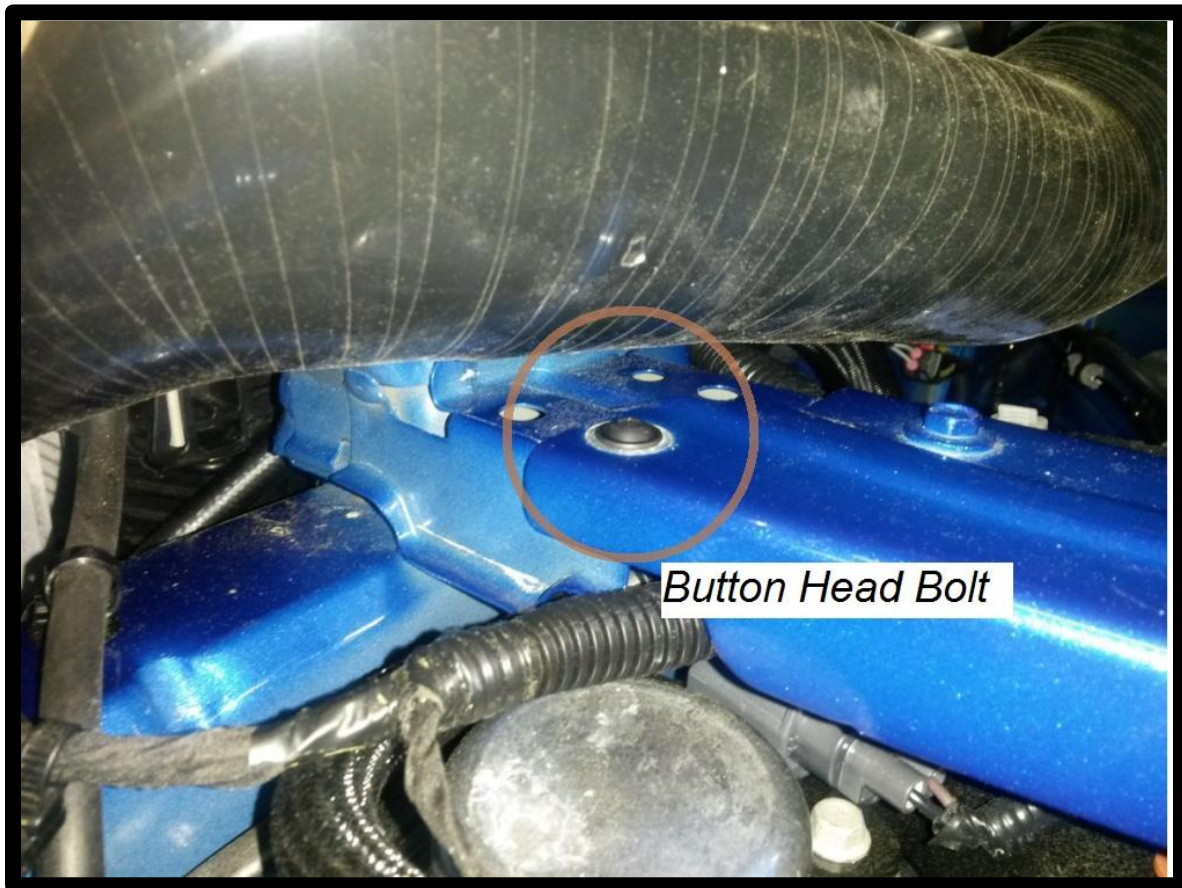

Figure 39: Location of Hex Head Bolt to be replaced with Button Head
6. On the driver's side there is a small sheet metal hex head bolt that as to be removed and replaced with the supplied M6x1.0x20MM button head bolt. The purpose of this is to avoid the hex head chaffing the intercooler inlet tube. See Figure 39 below for the location of the bolt.